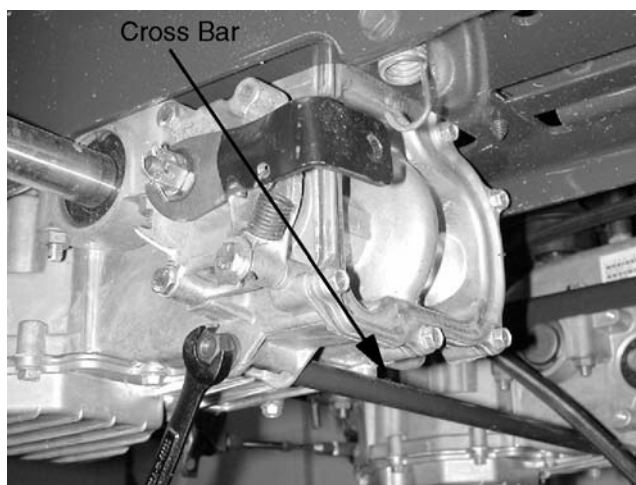

Figure 11-28
9. Remove the cross bar and tube from between the two IZTs using a pair of 1/2" wrenches. See Figure 11-28.